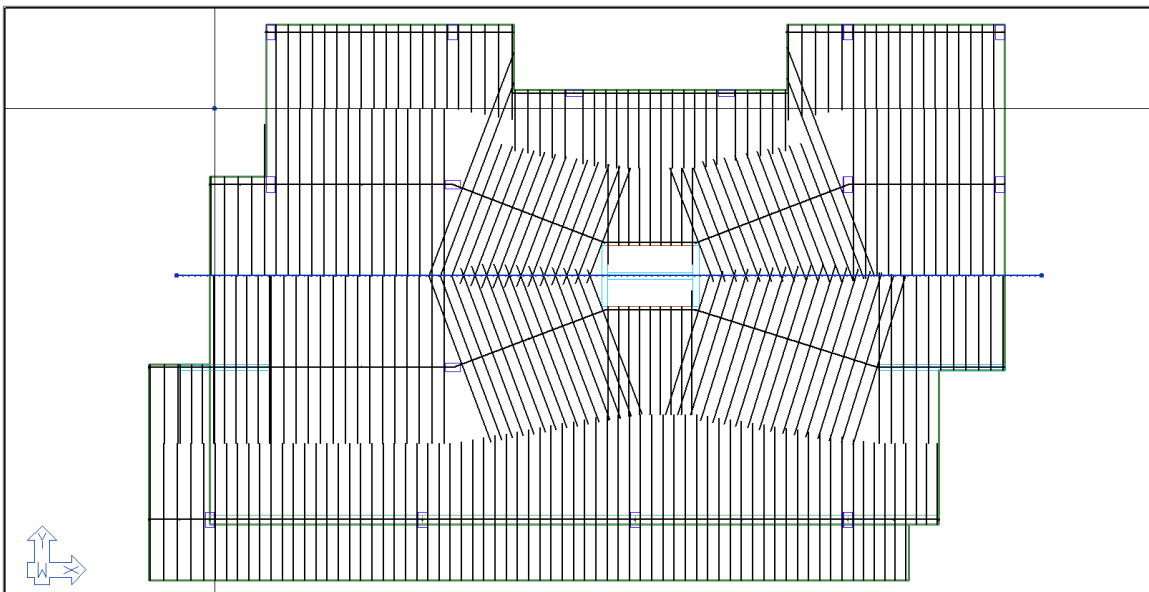

FIGURE 9-24
- Hover your mouse midway between support line 3 and support line 4, outside of the slab region as shown in **FIGURE 9-24**.